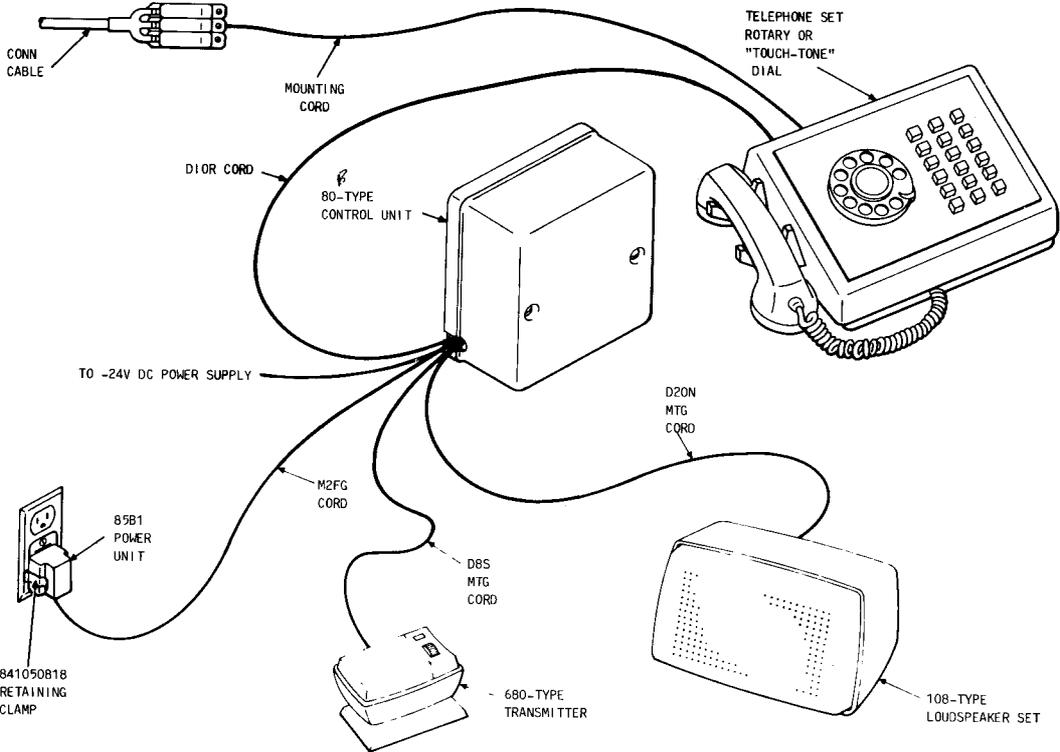

Fig. 1—4A Speakerphone System Arrangement, CALL DIRECTOR (2-Wire or 4-Wire) Telephone Sets
2.06 Power can be supplied by connecting 85B1 power unit as shown in Fig. 1, 2, and 3.